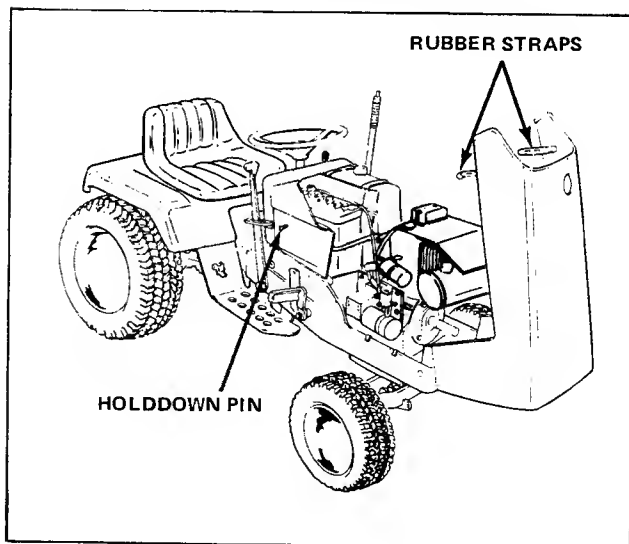

Figure 14. Raising Tractor Hood
The hood may be raised to the position shown in figure 14. With the hood raised, parts in the engine area are easily reached. Raise the hood as follows:
1. Pull the rubber straps (figure 14) down and away from the holddown pins.
2. Raise the hood to the position shown in figure 14.